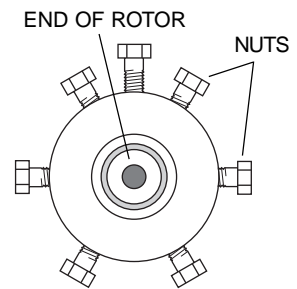

Figure 2:
- Engage the end of the rotor (**Figure 2**) with a pencil-type magnet, available from Valco or any electronic components supplier.
4. Put a nut (**Figure 2**) in the port corresponding to the last or highest numbered position.